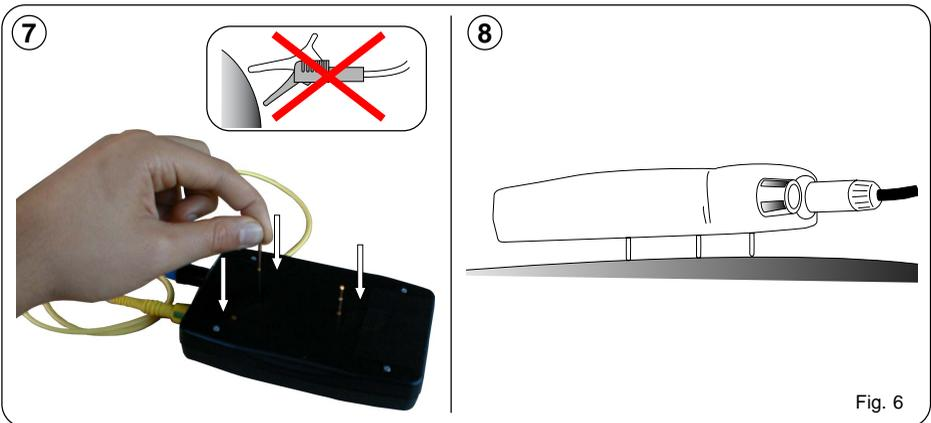

Fig. 6
- 7 If it is not possible to clip the earthing terminal on the material to test (e.g. the surface is round), the earthing connection is obtained by connecting conductive pins to the rear side of the instrument so that it can be directly earthed (fig. 6).
- 8 Place the instrument on the material to test using the earthing pins as support base (Fig. 6).